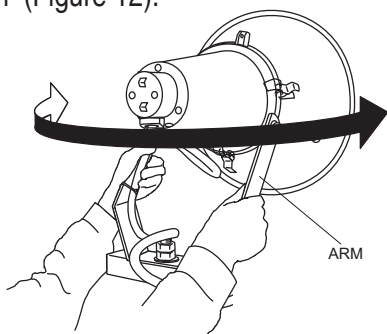

Figure 12. Adjusting Direction of Individual Lamp
1. Hold the arm of the lamp and turn it to the desired direction (Figure 12).